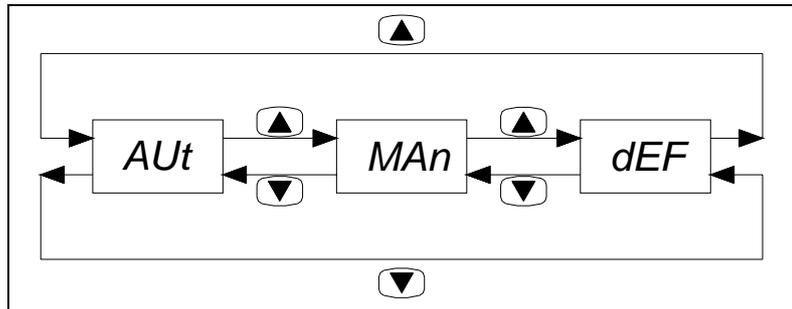

Fig. 29: Main Calibration Menu
– **Automatic Mode (Aut) (see Fig. 29)**
– **Manual Mode (Man)** (see Fig. 29)
– **Default Mode (Def)** (see Fig. 29)